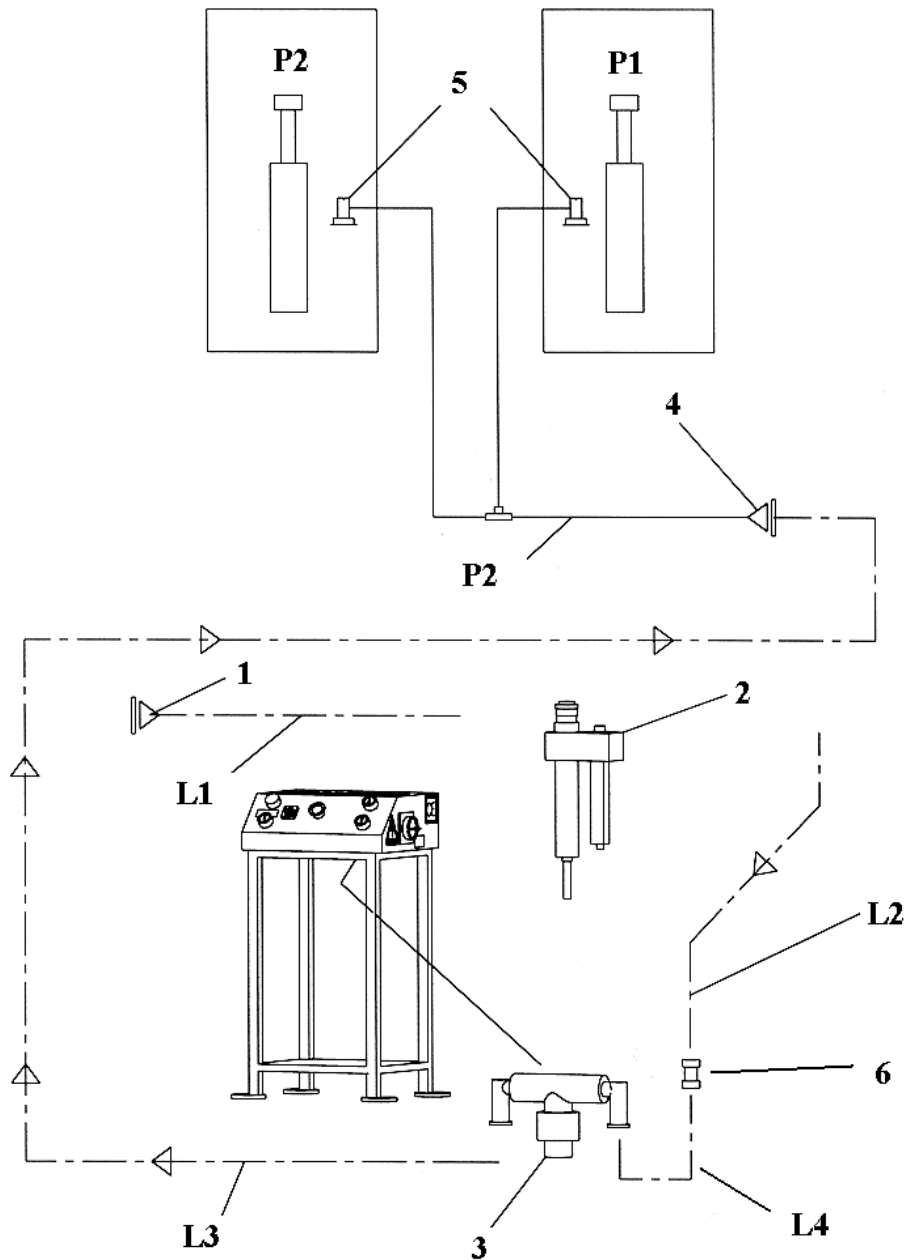

Figure 7 - Pneumatics Installation
2. Connect the pneumatic lines (pre-assembled on the runways) to the control desk according to the colour markings (see Figure 7).
NOTE: Use the ¼” Polytube Adapter (Figure 7, Item 6) to join the supply line (L2) to L4 (12” (300mm) piece sliced from L3 - Accessory Box).